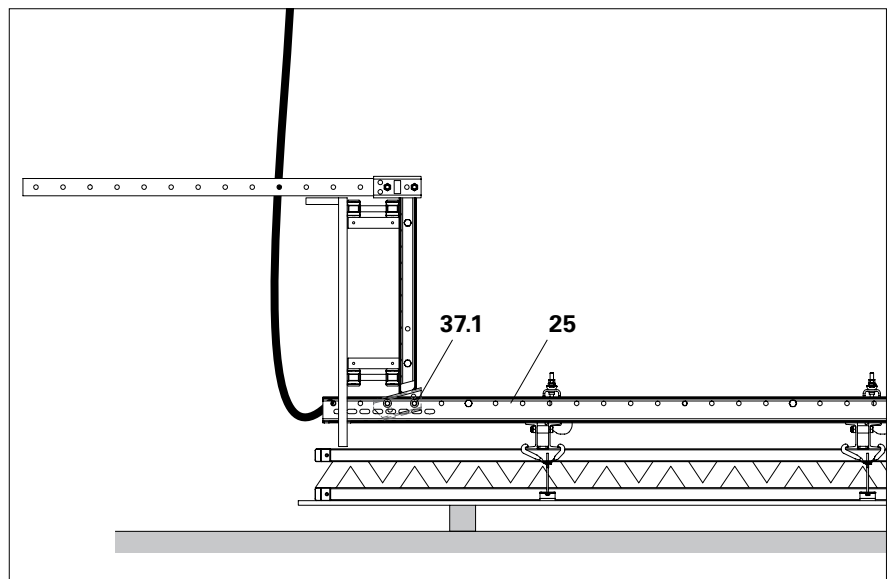

Fig. C1.11
6. Mount the pre-assembled platform to the Strongback (25) using the provided 2x fitting pins  $\varnothing 21 \times 120$  (37.1), washers and cotter pins 5/1.
7. Attach the Strongback to the crane lifting gear and turn the formwork. (Fig. C1.11)